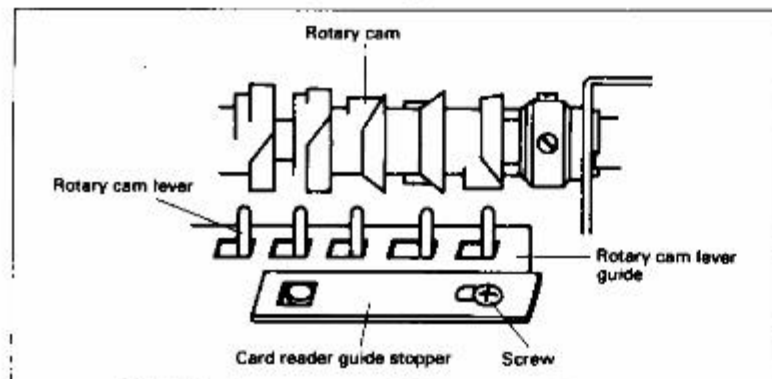

Fig. 6-2
7. Loosen the card reader guide stopper screw and slide the card reader guide stopper to left until the rotary cam levers touch softly to the right side of the window of the rotary cam lever guide. (Fig. 6-2)